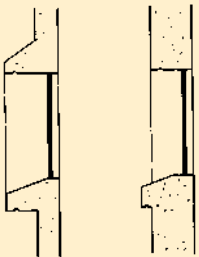

Fig. 8 Fig. 9
- They can be set in a deep coffer with margins projecting slightly (Fig. 8)